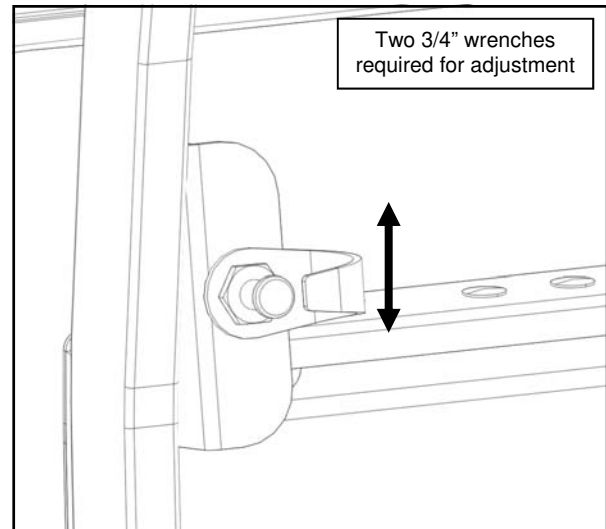

Fig. 11.3a (Door Striker Adjustment)
- Adjust the striker pin on the side frame vertically - See Fig. 11.3a